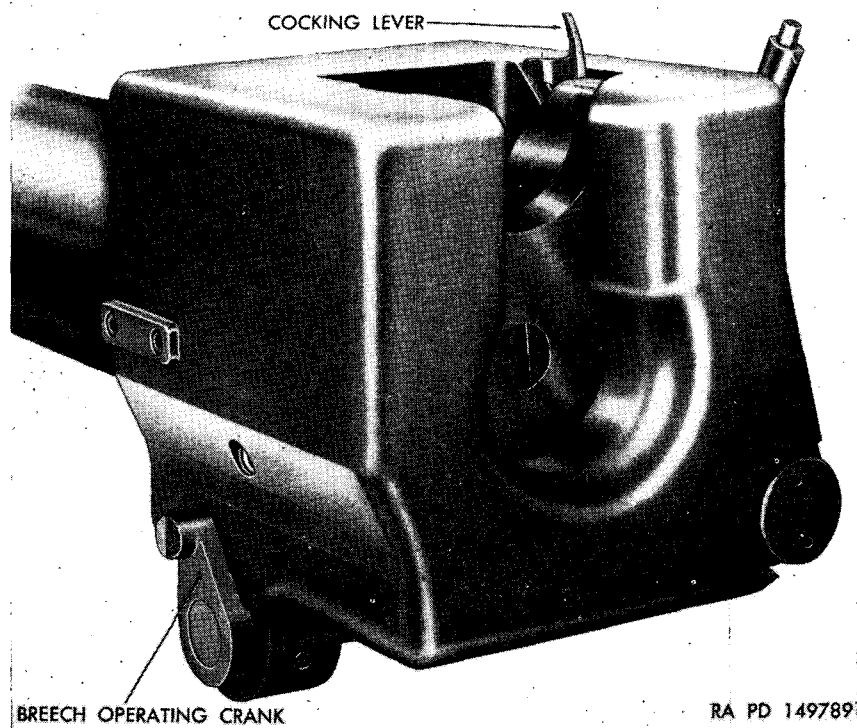
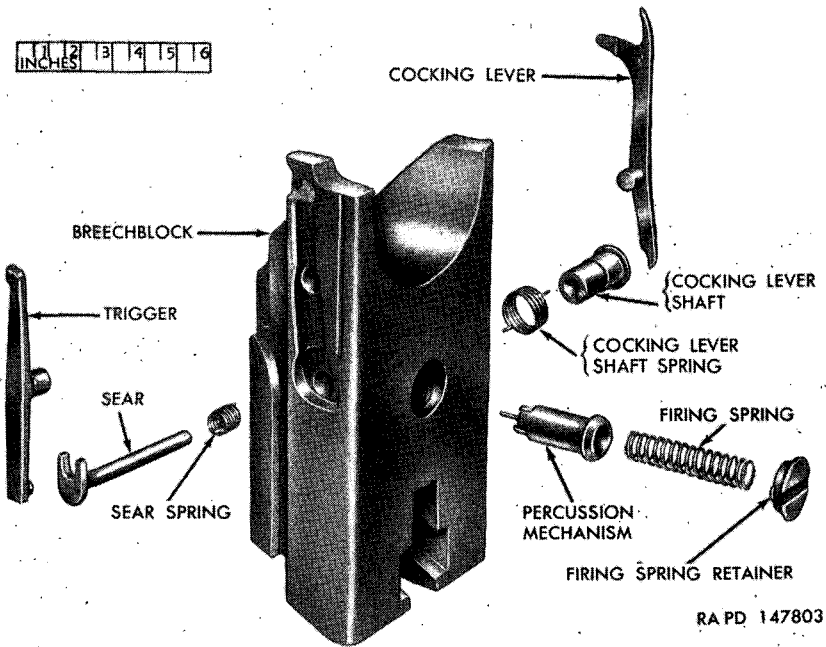

Figure 341. Breech closed—left rear view.
Figure 346. Breechblock and attaching parts—exploded view.
c. **BREECHBLOCK.** The breechblock and related parts (fig. 346) slide vertically in the breech ring. The top of the breechblock is U shaped to guide the cartridge into the chamber, and the upper front edge is beveled to drive the round home as the breech is closed. The two vertical holes in the bottom of the breechblock are for lightening the breechblock.
d. **FIRING PARTS.** The firing parts include the percussion mechanism, firing spring, firing spring retainer, sear, and trigger (fig. 346). Firing is accomplished by actuating the trigger plunger (through the firing linkage (sec. XXXI)), which protrudes from the upper, left, front face of the breech ring (fig. 349).
- (1) With the chamber empty and the breech closed, operate the firing mechanism (par. 349) on the mount to actuate the trigger plunger and trigger and trip the sear. Press the firing spring retainer (fig. 346) inward against the firing spring and rotate the retainer 90° until the slot in the retainer is horizontal. Remove the retainer and firing spring. Hold one hand over the exposed hole and pull rearward on the cocking lever (fig. 341) to move the percussion mechanism to the rear and beyond the sear. Grasp the rear end of the firing pin guide and withdraw the percussion mechanism from the central breechblock bore. To disassemble the percussion mechanism, see paragraph 343b.
- (2) Removal of the sear, trigger, and cocking mechanism requires removal of the breechblock (a above). With the breechblock removed and standing upright, pull the cocking lever (fig. 346) out of its seat in the right side of the breechblock. Remove the cocking lever shaft and the cocking lever shaft spring from the bore in the right side of the breechblock. Remove the trigger from its seat in the left side of the breechblock. Remove the sear and sear spring from the bore on the left side of the breechblock.